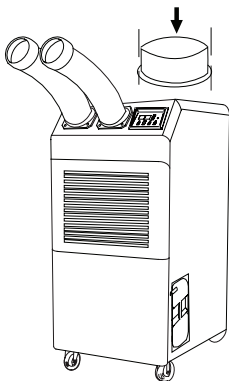

Figure 3
3. Use screws (enclosed inside of box with the top fan exhaust flange) to install the top fan exhaust flange on the unit as shown in Figure 3.